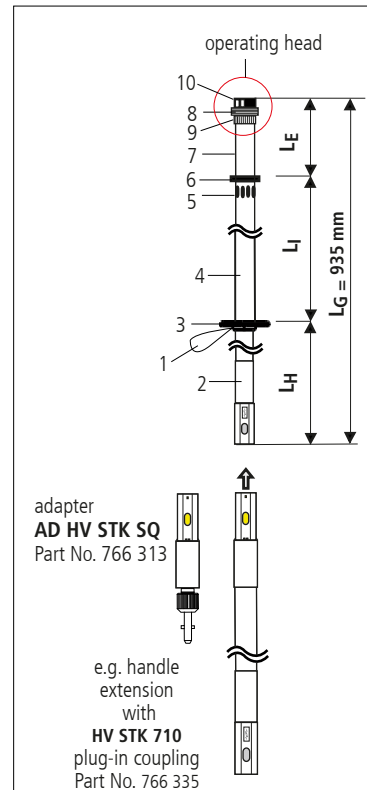

Fig. 1
2.1 The structure of the HSA 194 voltage detector is illustrated in Fig. 1.
5.5 Only the inserting element of the voltage detector may be inserted into the protected zone of the insulator (see Fig. 1).